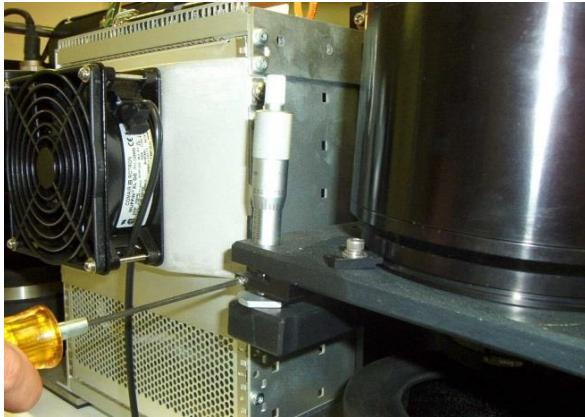
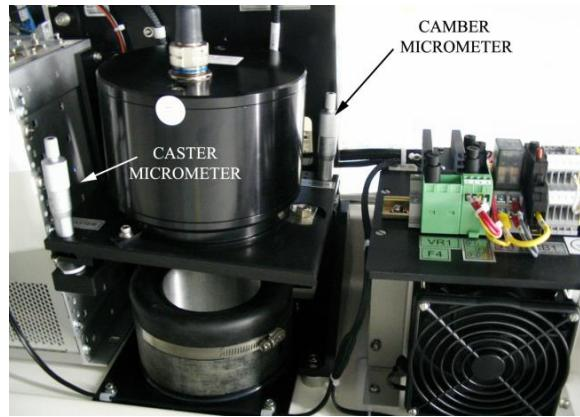

Figure 6.12 Camera Focusing
Figure 6.13 Camera Focusing
- 4) Loosen the caster (forward tilt, Figure 6.13) micrometer lock screw (Figure 6.12) with a 3/32" Allen head screwdriver. Check if the video display contains 8 edges. If not, adjust the caster micrometer until it does. Then, gradually turn the micrometer clockwise until the outer edges in the video display start to disappear. If they start to disappear at the same time, camera rotation is correct, jump to Step 9. If the edges at one end start to disappear before those at the other, continue with Step 5
- 3) Loosen the camber (inward tilt) micrometer lock screw for camera A with a 3/32" Allen head screw driver. The camber adjustments for both cameras A and B are located farther from the center of the scanner than the caster adjustment screws (Fig. 6.13). Adjust the micrometer to minimize the number in the **CAMBER** field. When the value is flickering between +1 and -1, the camera is aligned.